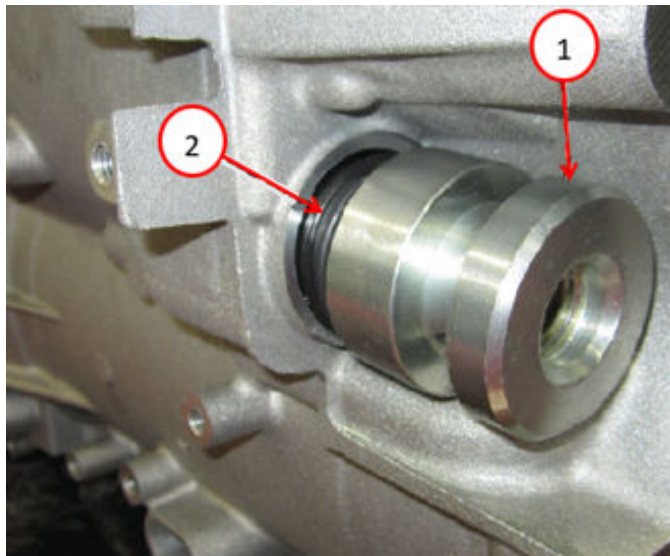

Fig. 11
17. Remove the valve body assembly bolts in the order shown and remove the valve body Fig. 11.